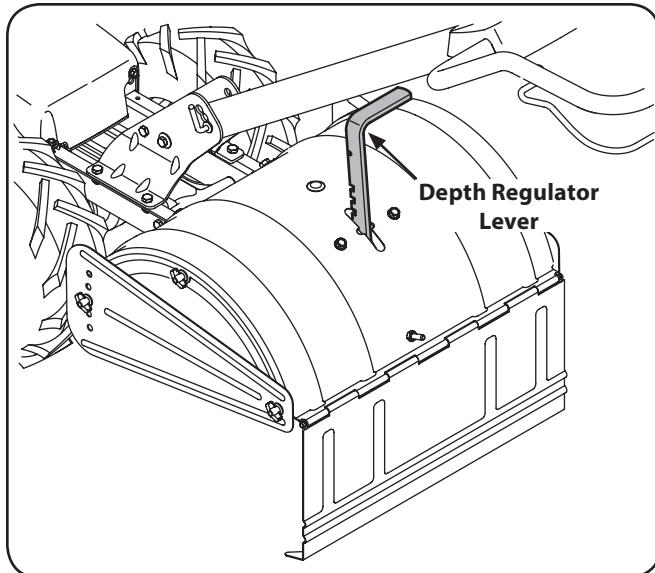

Figure 3-5
1. With the tiller on level ground, pull the Depth Regulator Lever back and then all the way up until the lowest notch in the lever is engaged. See Figure 3-5.